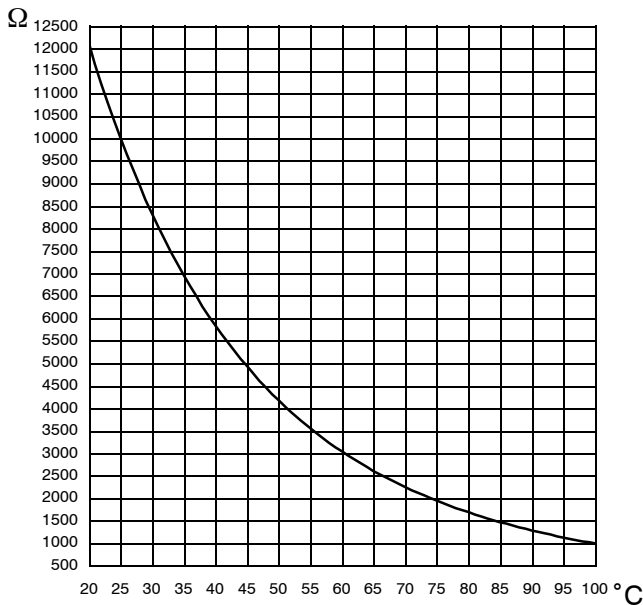
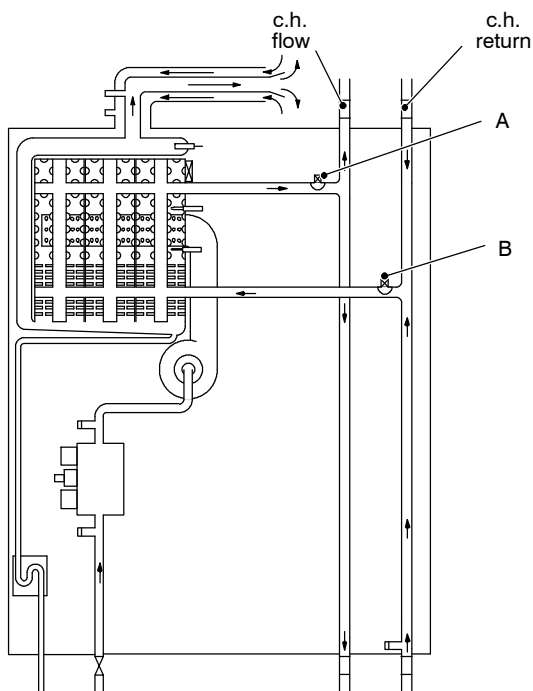
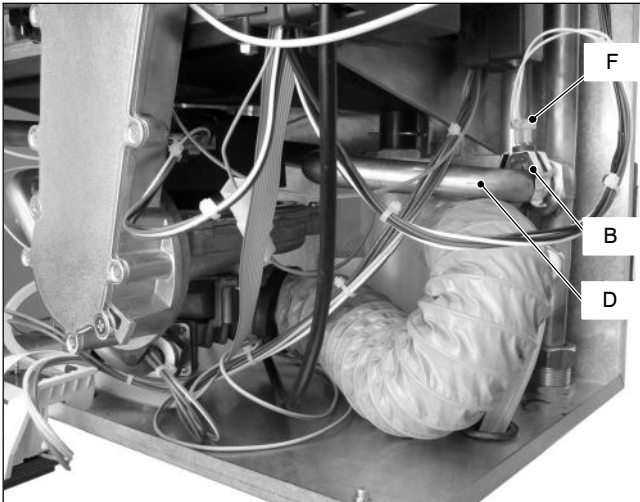

Fig. 9.1
Fig. 9.2
Fig. 9.4
The relation between temperature and electrical resistance is stated in Fig. 9.1.
On the boiler there are two Temperature probes. One on the output of the primary condensing heat exchanger (c.h. flow Temperature probe) *A* in Fig. 9.2 and Fig. 9.3; one on the input of the primary condensing heat exchanger (c.h. return Temperature probe) *B* in Fig. 9.2 and Fig. 9.4.
Measure the temperature of the pipe *C* (c.h. flow Temperature probe) (Fig. 9.3) or of the pipe *D* (c.h. return Temperature probe) (Fig. 9.4) where the Temperature probe is located and check the electrical resistance according to the graph in Fig. 9.1.
- 2 Remove the electric connector *F* and c.h. return Temperature probe *B* – Fig. 9.4